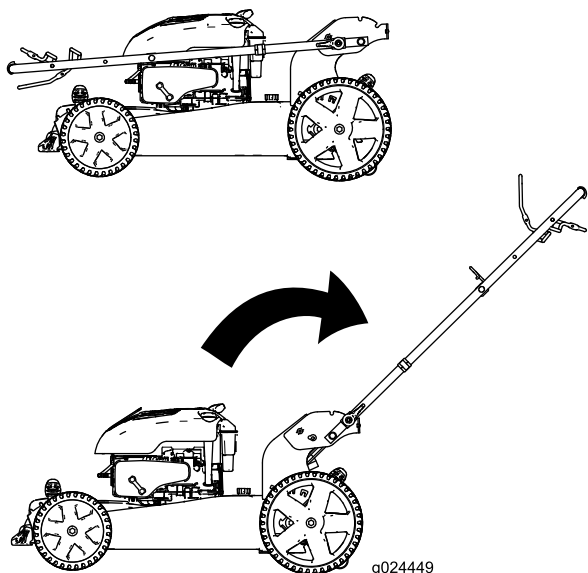

Figure 3
1. Move the handle rearward to the operating position (Figure 3).